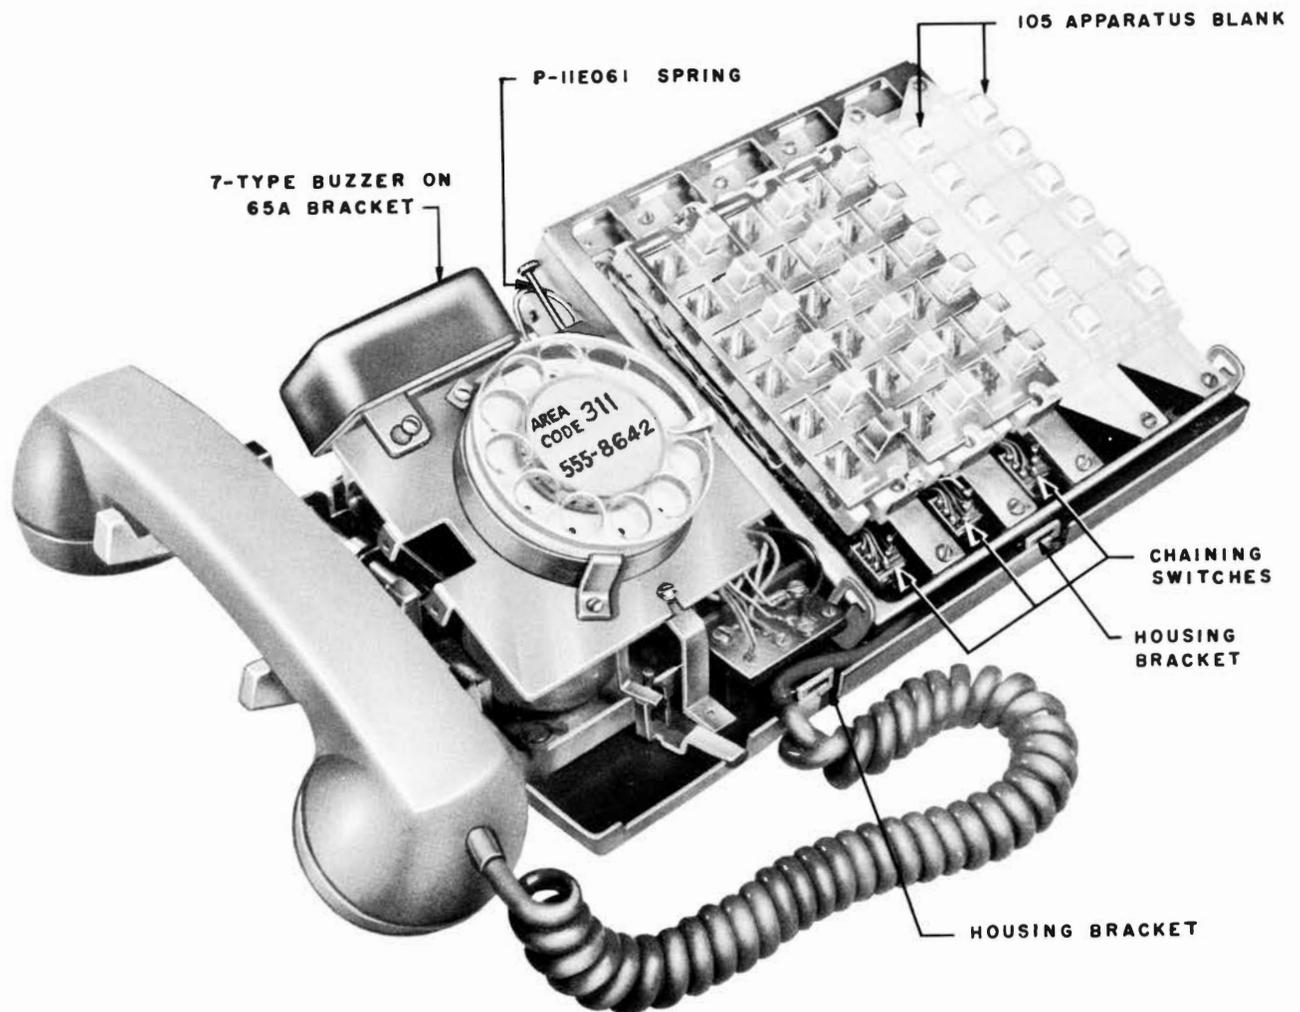

Fig. 9 – 601-Type Telephone Set, Housing Removed
3.04 All line pickup keys are mechanically interlocked within a 598A, 599A, or 599B key. These, in turn, are mechanically interlocked by a common pivot bar. Operation of any pickup button on any key releases any other operated button, as does the hold button on its upstroke. All keys are interconnected electrically through a chaining switch on each key unit; this disconnects subsequently positioned keys when any pickup is depressed (Fig. 9). This arrangement prevents connecting the telephone set to more than one line at a time. One locking-type button may be depressed in each row of keys, but only the one nearest the telephone circuit will be electrically connected to associated line equipment.
2. Loosen screws from dial mounting plate (Fig. 9).
3. Move dial mounting to rear and lift (Fig. 9).